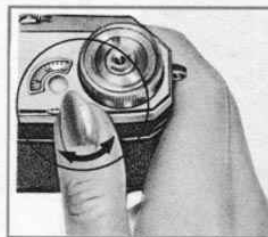

Fig. 13. Zero-setting frame counter
4. Align the frame counter zero with the index on the cover, turning the protruding part of the disc (Fig. 13).